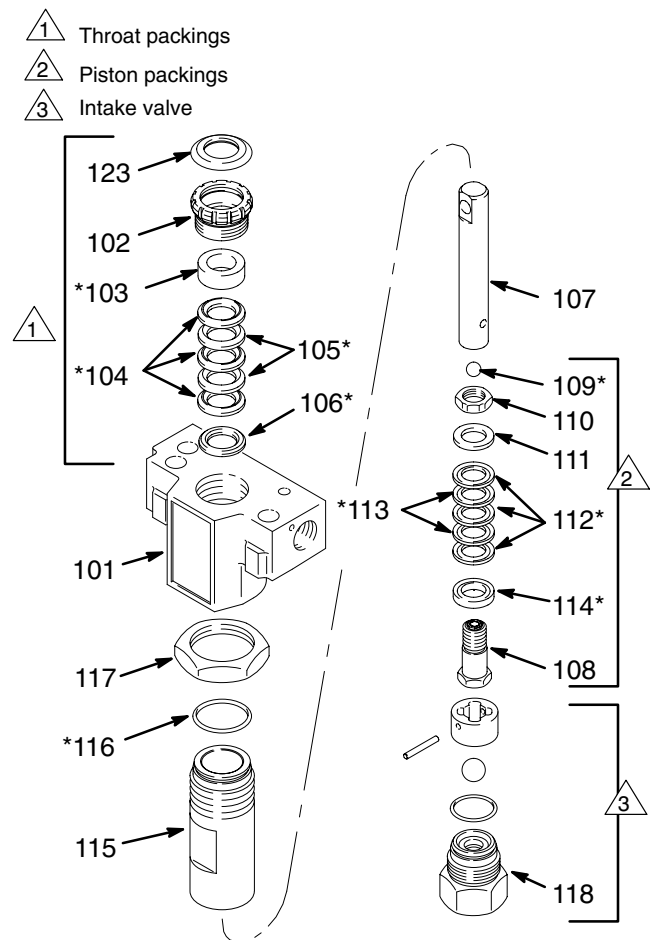

Fig. 19
- a. Remove the pump connecting rod pin (17). See Fig. 19, page 22.
11. **Break in the brushes.** Operate the sprayer for at least one hour with no load. Install the pump connecting rod pin. See Fig. 19, page 22
Disassembling the pump (See Fig. 19.)
NOTE: Alternate plastic and leather packings. See Fig. 19. The lips of the throat V-packings face down. The lips of the piston V-packings face up. Incorrect installation damages the packings and causes pump leakage.
1. Check the outside of the piston rod (107) and the inside of the cylinder (115) for wear. Replace worn parts to ensure a good seal with the new packings.
2. Stack these parts onto the piston valve (108) one at a time: the female gland (114*), alternately three plastic (112*) with two leather packings (113*), and the male gland (111*). See Fig. 19.